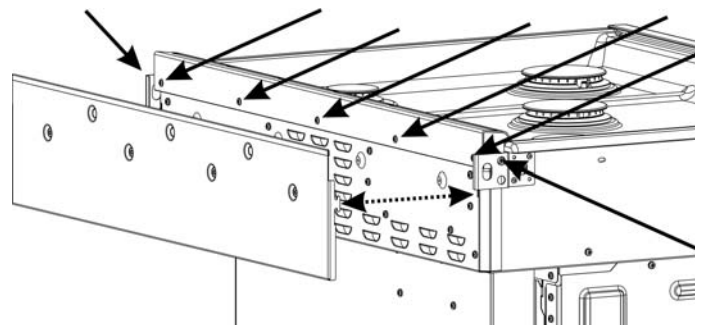

Figure 2: Trim screw locations (louver cover removed)
5. Lift the louver cover out of the slots holding it in place (see Figure 2). Note the slot locations for later.
7. Remove the screws holding the trim (five screws on the back and one screw on each end)(see Figure 2). Save these screws for installation of the Low Backguard.
- Hold the Low Backguard in a vertical position while installing and tightening the five screws in the back (see Figure 2).